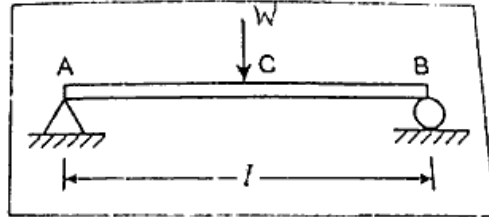

Fig. 11(a)
11. (a) A beam AB of span ' l ' simply supported at ends and carrying a concentrated load W at the centre ' C ' as shown in Fig. 11(a). Determine the deflection at midspan by using Rayleigh-Ritz method and compare with exact solution.